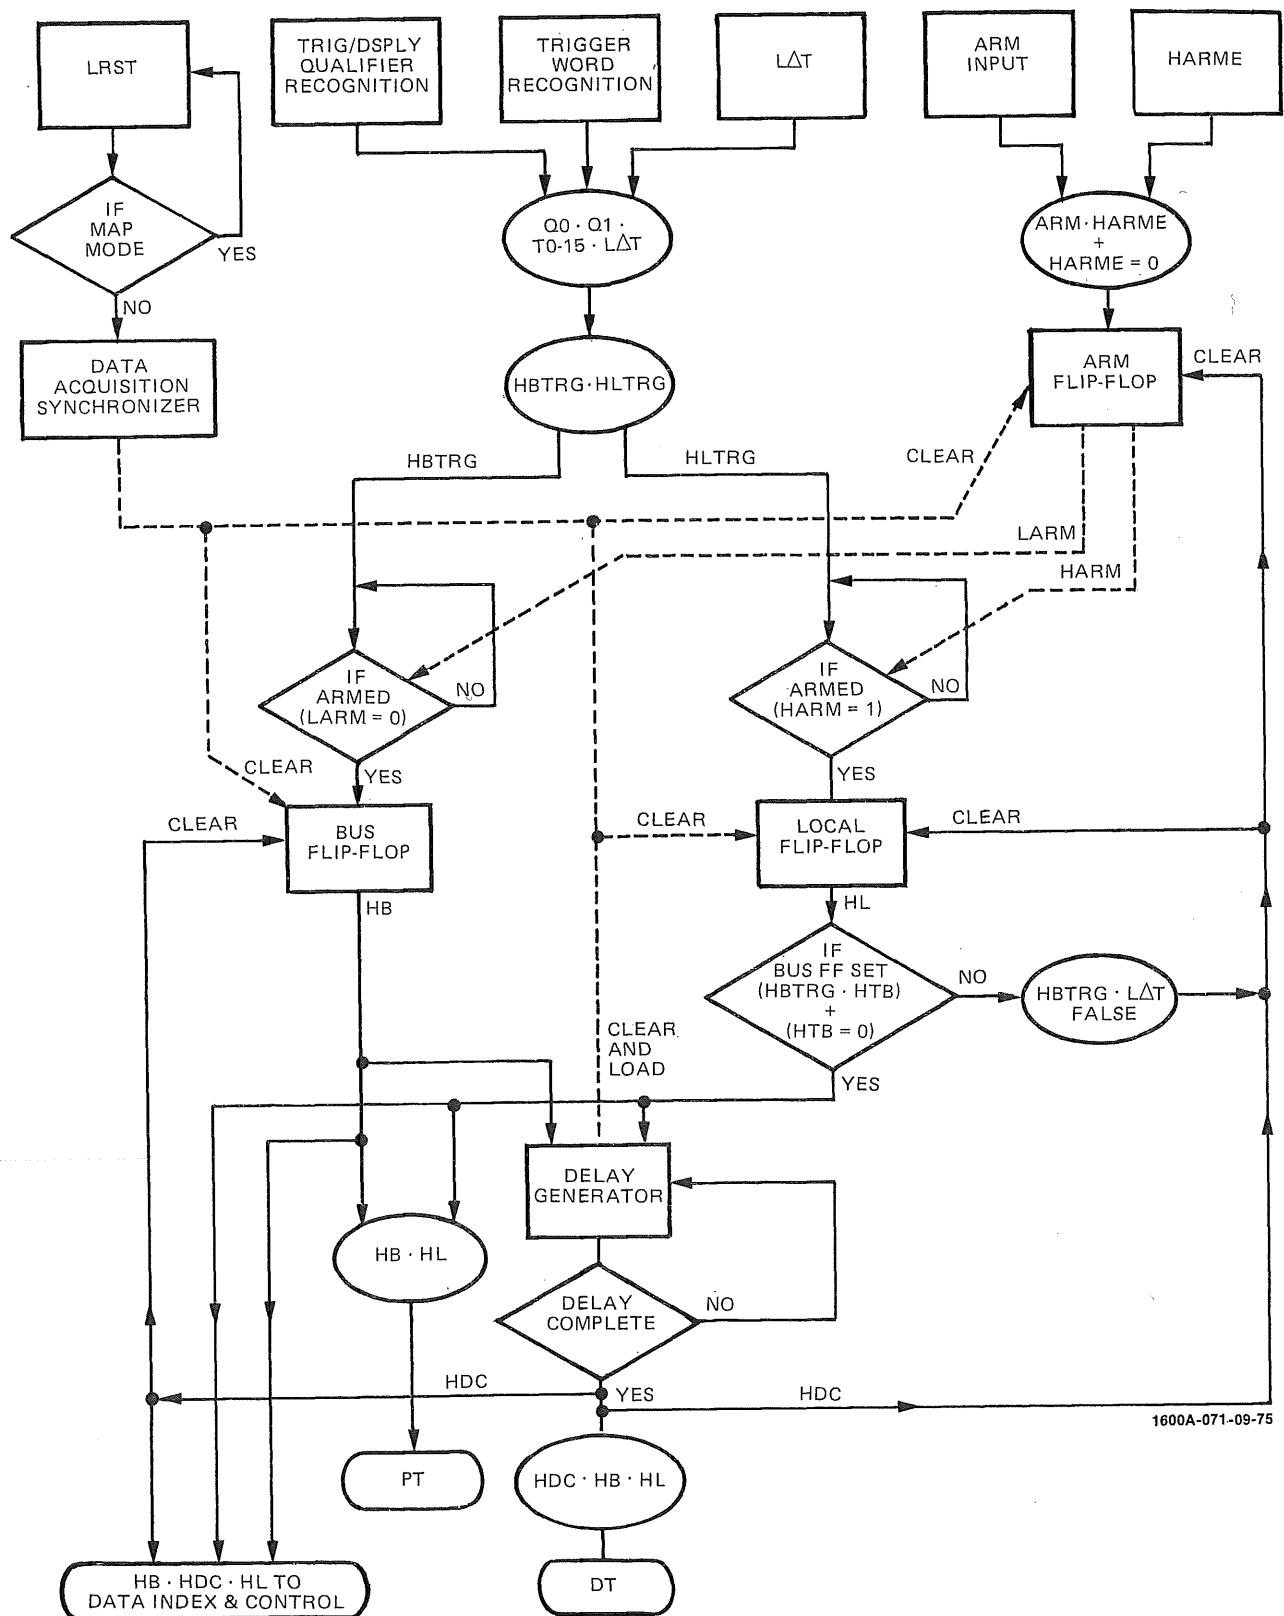

Figure 4-2. Digital Delay/Trigger Generator Algorithm
**4-13. DIGITAL DELAY AND TRIGGER GENERATOR.** Functional operation of the digital delay and trigger generator circuitry is shown in figure 4-2. The AND of trigger word recognition with qualifier recognition and  $L\Delta T$  produce HBTRG and HLTRG. HBTRG and HLTRG are applied to the bus and local flip-flops.